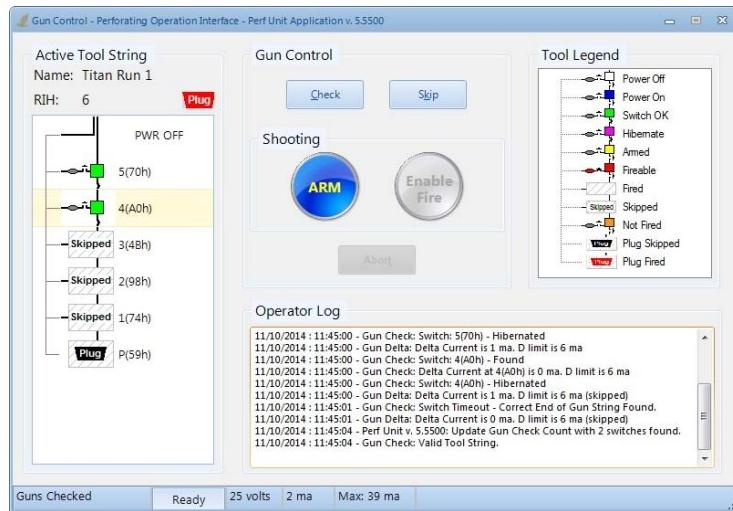

Figure 46
- Shown in Figure 46 is the result of a successful Gun Check after performing a gun skip on the Plug and the Guns. The tool string can now be used.